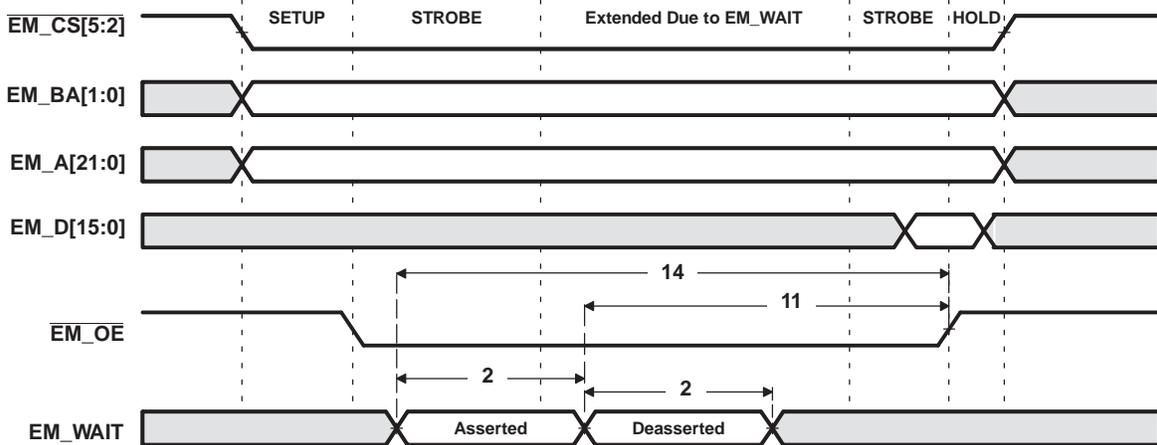
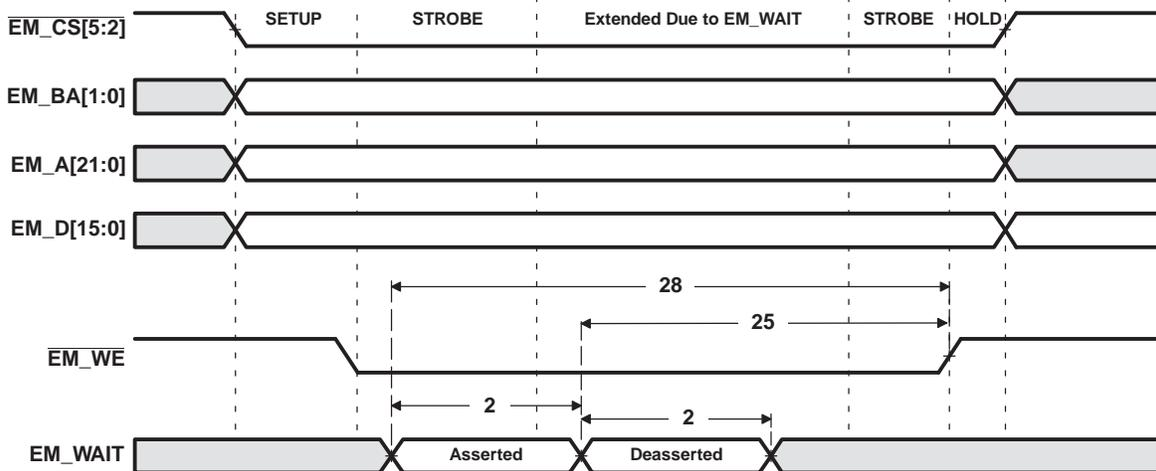

Figure 6-23. EM_WAIT Read Timing Requirements
Figure 6-24. EM_WAIT Write Timing Requirements
- (1) E = SYSCLK5 period in ns for EMIFA. For example, when running the DSP CPU at 594 MHz, use E = 10.1 ns. For example, when running the DSP CPU at 810 MHz, use E = 7.4 ns.
- (2) Setup before end of STROBE phase (if no extended wait states are inserted) by which EM_WAIT must be asserted to add extended wait states. Figure 6-23 and Figure 6-24 describe EMIF transactions that include extended wait states inserted during the STROBE phase. However, cycles inserted as part of this extended wait period should not be counted; the 4E requirement is to the start of where the HOLD phase would begin if there were no extended wait cycles.